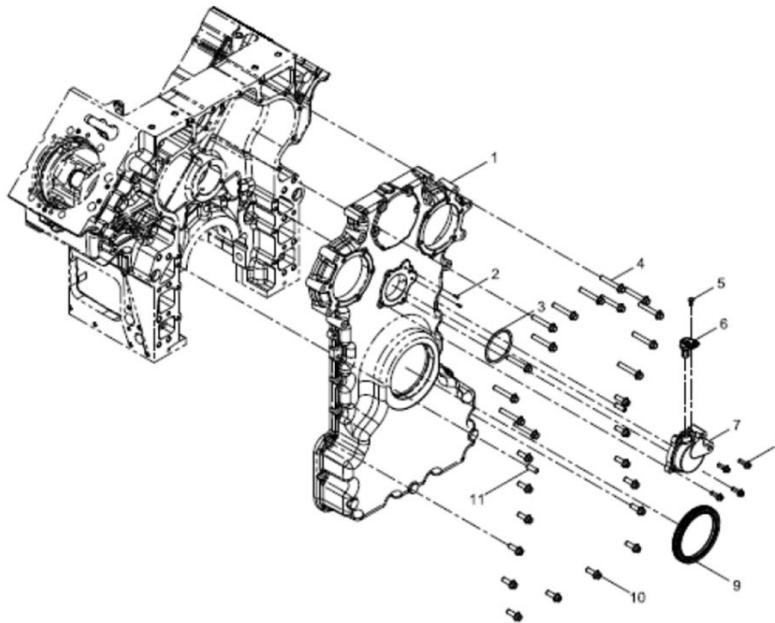

Figure 152.
4. Install the front-end cover (Figure 152, item 1) to the engine block. Pay attention to the locating pin.
5. Apply Loctite sealant 242 to the threads of the bolts (Figure 152, item 4). Tighten the bolts to recommended torque.
6. Install the front oil seal (Figure 152, item 9).